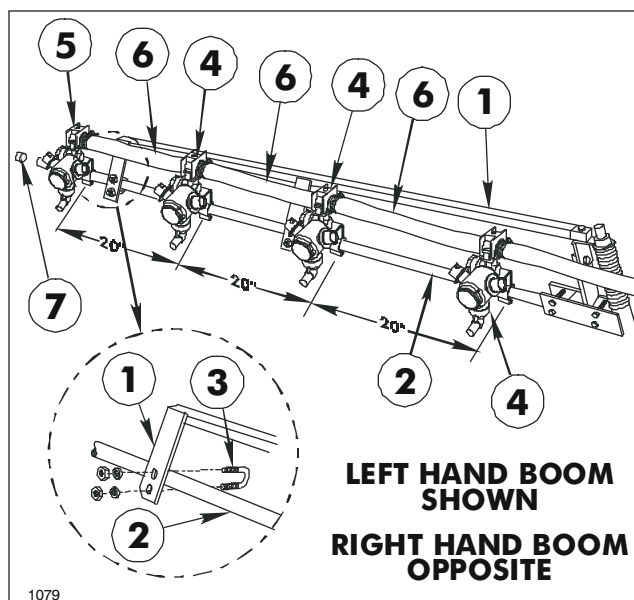

FIG. 13
13. Secure the two plates of the Boom Support Assembly to one of the Extension Boom Pipes, using two (2) 1/4" U-bolts, four (4) lock nuts and flat washers. See FIG. 13.
16. Attach three double barb and one single barb Turret Bodies with Turret Body Clamps on each Extension Boom Pipe as shown in FIG. 13.
17. Level Nozzles and space 20" apart. Connect the Turret Body Assemblies with 3/4" x 19" Jumper Hoses. Secure with hose clamps. See FIG. 13.